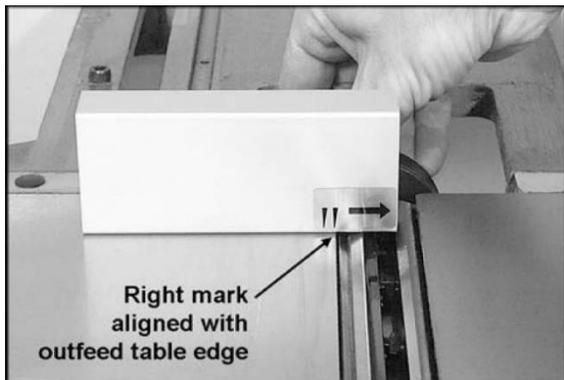

Figure 14
10. An aluminum knife setting gauge, shown in Figure 14, is provided with the machine. Place the knife setting gauge at the back of the outfeed table (toward the fence support side) and extending over the *cutterhead* (D) as shown in Figure 14. Place the gauge so that the right mark lines up with the edge of the outfeed table, as shown.